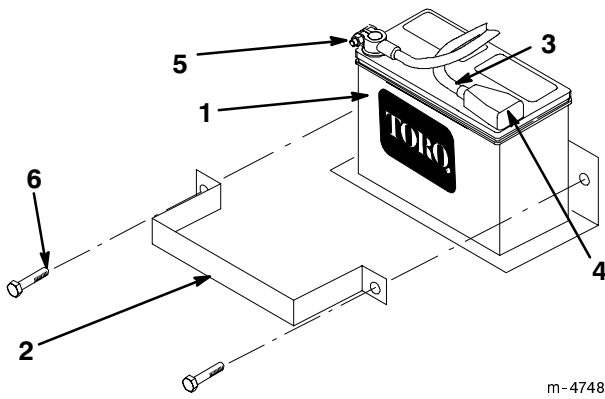

Figure 1
2. Remove the bolts and clamp securing the battery (Fig. 1).
- Secure the battery in chassis with the clamp and bolts removed previously (Fig. 1).
- Using the bolt and nut supplied with the battery, connect the positive (red) cable to the positive (+) battery post (Fig. 1). Slide the rubber cover over the battery post.
- Using the bolt and nut supplied with the battery, connect the negative (black) cable to the negative (-) battery post (Fig. 1).